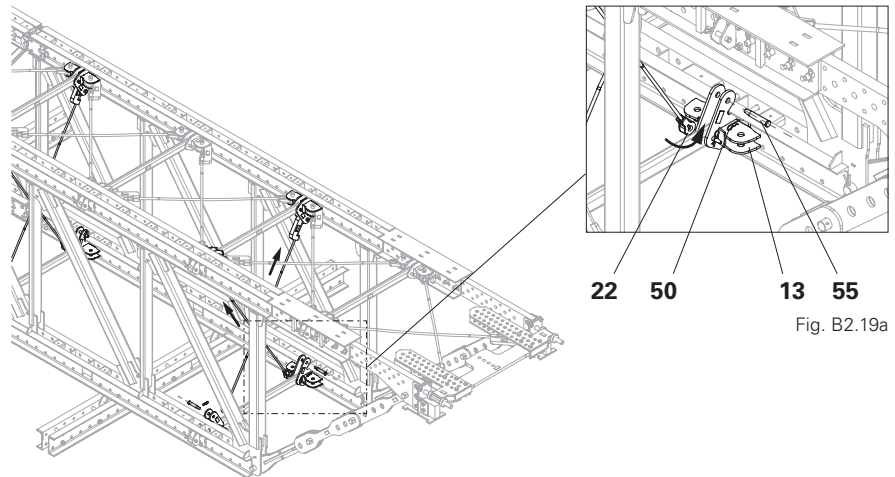

Fig. B2.19
1. Insert the tie rod (**24**) into the articulated spanner. (Fig. B2.19)